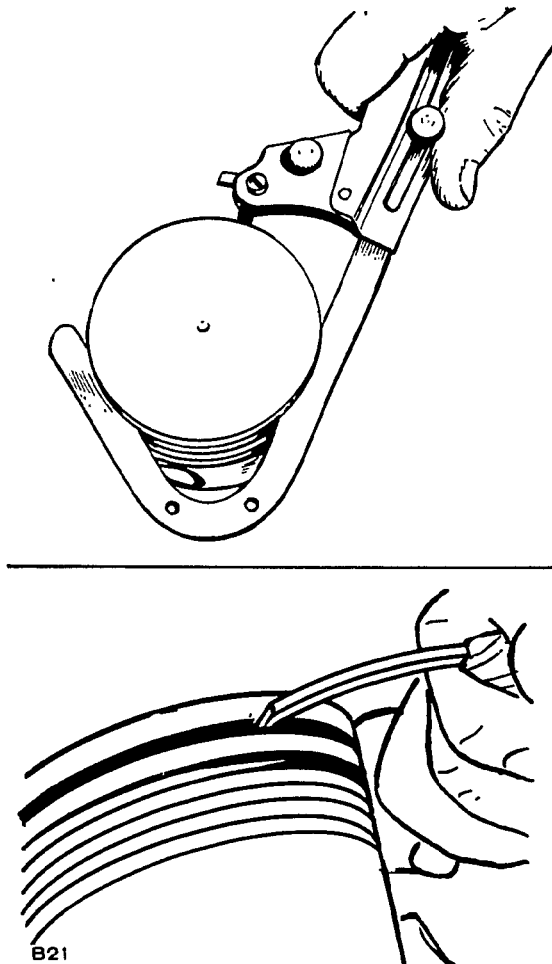

FIGURE 14. PISTON GROOVE CLEANING
7. Remove dirt and deposits from the piston surfaces with an approved cleaning solvent. Clean the piston ring grooves with a groove cleaner or the end of a piston ring filed to a sharp point (Figure 14). Care must be taken not to remove metal from the groove sides.